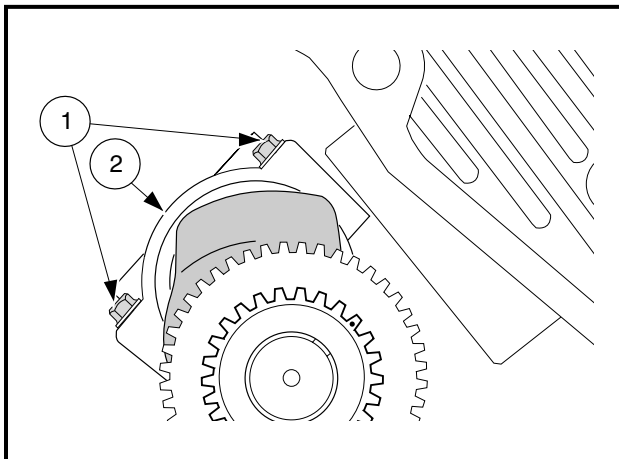

Figure 18-43 Connecting Rod Cap Bolts
1. Turn crankshaft to expose the two connecting rod cap bolts (1) (**Figure 18-43, Page 18-24**).
2. Loosen the cap bolts and take them out together with the connecting rod cap (2).